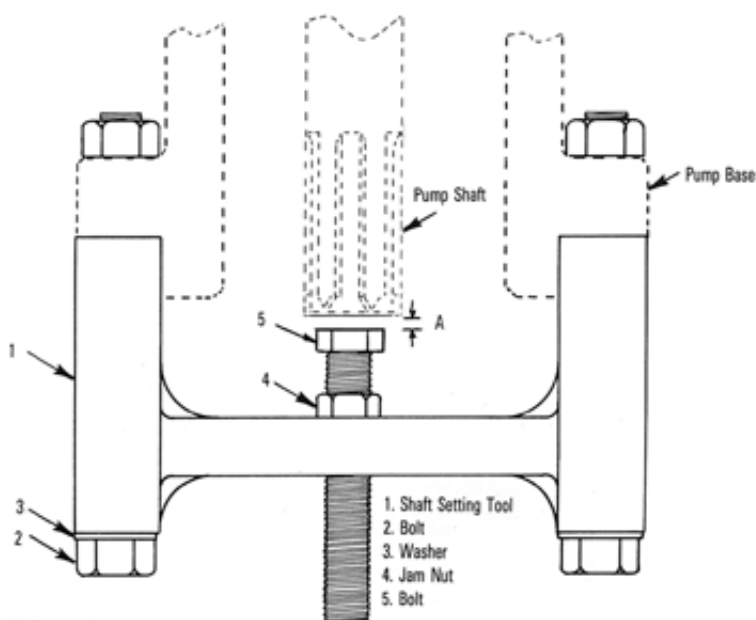

Figure 4-46: Thrust setting tool on the pump base
7. Install the thrust setting tool on the pump base as shown in Figure 4-46. When doing so, flip the attaching bolts, not the tool. The center bolt head must remain next to the bottom of the pump shaft. Using shims, fill space **A** (see Figure 4-46) between the pump shaft and the bolt head with the appropriate amount of shims to fill the space and place the shims in the coupling.